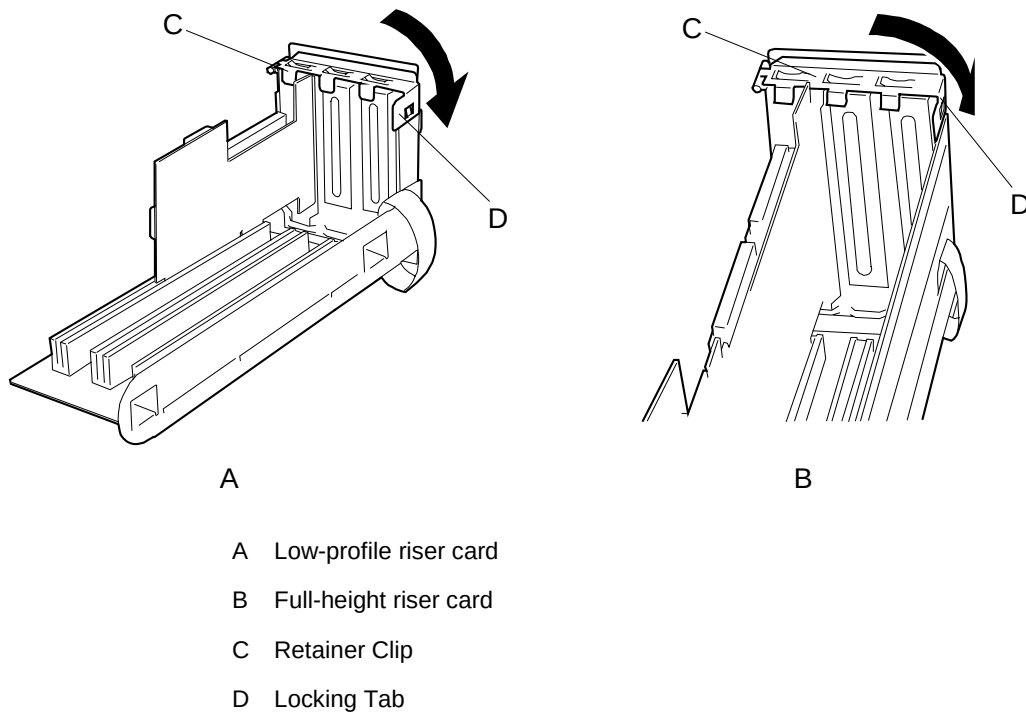

Figure 4-29. Closing and Locking the Retainer Clip
10. Close and lock the retainer clip. See Figure 4-29.